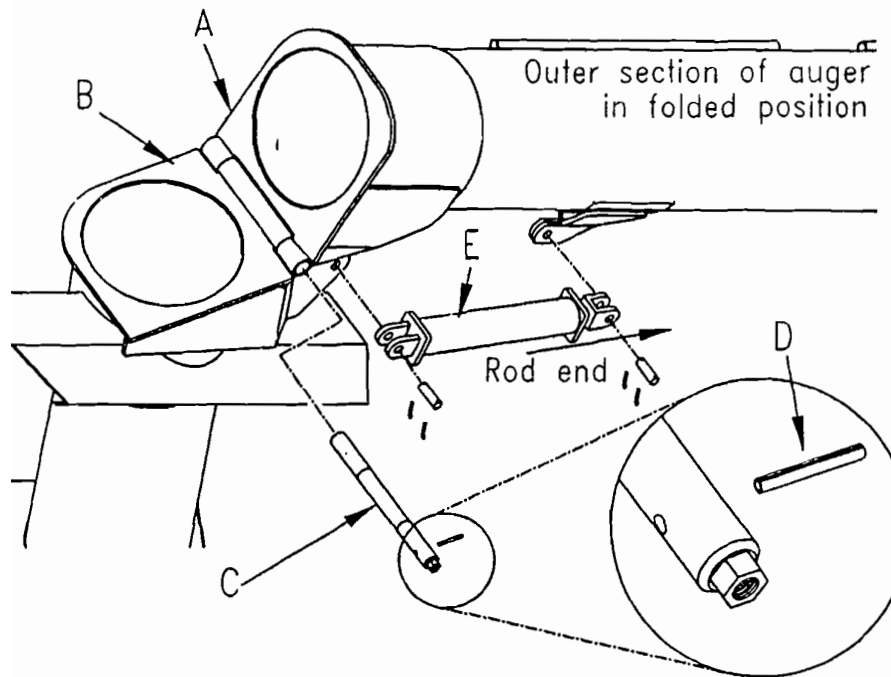

FIGURE 6
2. Place discharge auger assembly up on the grain cart in the transport (folded) position. See Figure 6. Align plate (A) with bottom auger plate (B). Grease hinge pin (C) and insert into hinge tube with welded nut end on the bottom as shown. This nut is important for pin extraction when the auger must be removed. Drive the pin with a rubber mallet or other means so as not to damage the nut.
3. Align the hole through hinge pin and hinge tube. Drive $\frac{1}{2}$ " x $2 \frac{1}{2}$ " roll pin (D) in place, securing the hinge assembly. See Figure 6.
4. Install butt end of 3"x 18" hydraulic cylinder (E) to mount on the bottom auger as shown, using the pin provided. Fasten with cotter keys. Connect hydraulic hoses to cylinder fittings, and cycle the cylinder several times to remove air from the system. Carefully extending the rod end of the cylinder to align mounting holes to the upper auger tube mount. Connect and secure with pin and cotter keys.